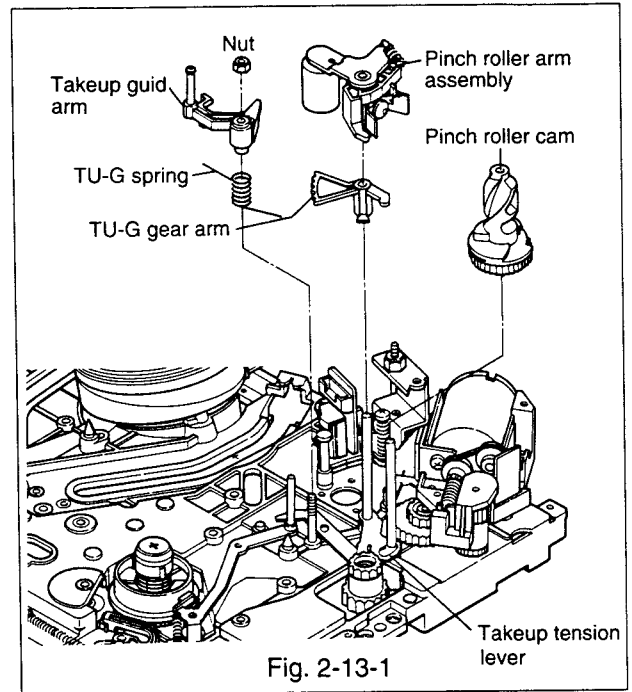

Fig. 2-13-1
2-13-1 Removal(Refer to Fig. 2-13-1.)
2-13-2 Installation(Refer to Fig. 2-13-1~2-13-3.)
- C. Turn the takeup tension lever fully clockwise as shown in Fig. 2-13-1.
- E. Assemble the pinch roller arm assembly to the shaft on the main plate.(Refer to Fig. 2-13-1.)